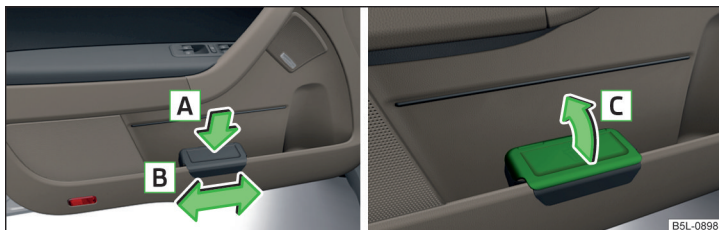

Fig. 82 Waste container: Inserting and moving/opening
- Push the waste container to the back in the direction of the arrow **A** » Fig. 82.
- Remove the waste container in the opposite direction to the arrow **A** » Fig. 82.
- Lift the lid in the direction of arrow **C** » Fig. 82.